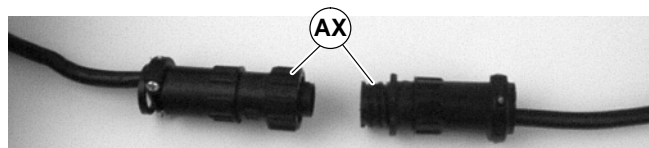

Figure 27
3. For DC variable speed motor, unplug motor cord at disconnect (AX of Figure 27).